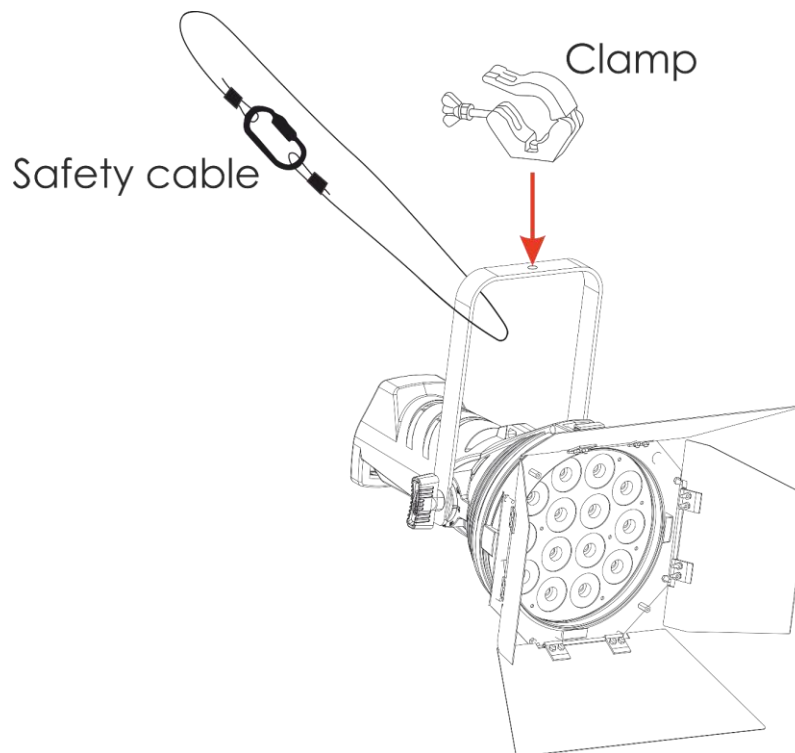

Fig. 06
- 01) Use a clamp to attach the device to the supporting structure, as shown in Fig. 06. Make sure that the device cannot move freely.
- 02) Secure the device with a secondary suspension, for example a safety cable. Make sure that the secondary suspension can hold 10 times the weight of the device. If possible, the secondary suspension should be attached to a supporting structure independent of the primary suspension. Put the safety cable around the **mounting bracket (00)**, as shown in Fig. 06.